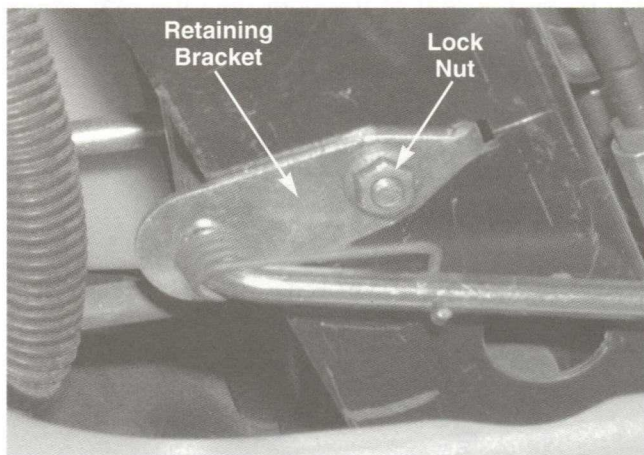

FIGURE 10.
18. Remove the hex flange lock nut and carriage bolt securing the parking brake retaining rod bracket to the support tower assembly using a 7/16 socket. See figure 10.